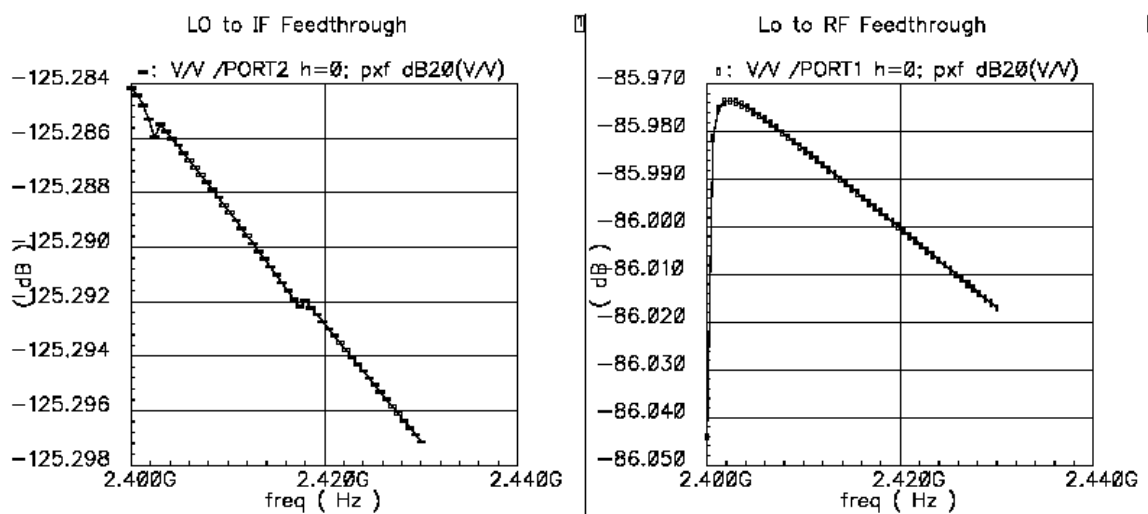

Fig 7: LO-to-IF Feedthrough
- *Select the LO port in the schematic, see the results in Fig 7 (left).*
- *Now select RF port instead of the LO port in the schematic, see the results in Fig 7 (right).*